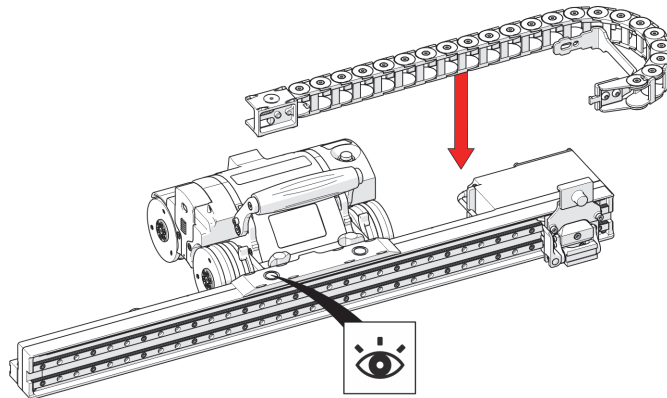

Figure 2-27 Attaching the cable tray
1. Attach the cable tray's magnetic end to the magnetic base on the raster arm. Ensure that the four divots are aligned with notches on the magnetic end (see Figure 2-27 on page 67).